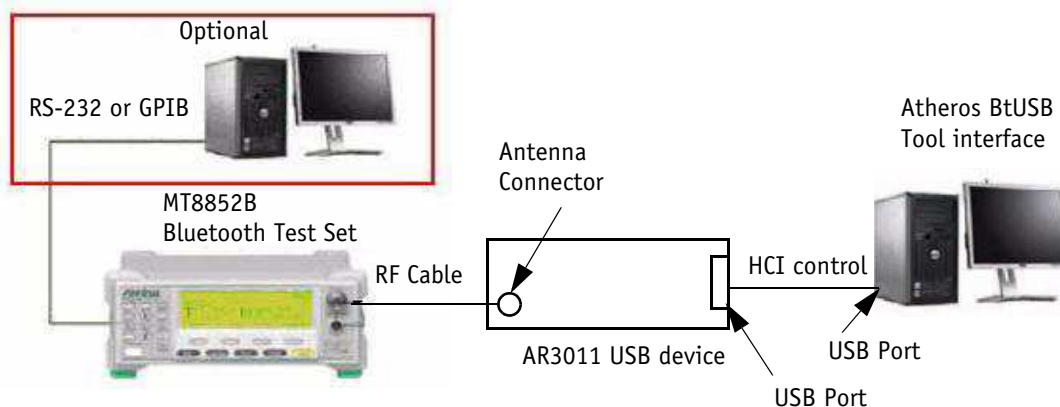

Figure 1-7. Atheros BtUSB Tool Hardware Set Up for Testing
Figure 1-7 shows a typical hardware setup to be used with the BtUSB tool.
2. Connect the RF cable between the AR3011 USB Adapter and the RF tester by connecting an RF cable to the antenna connector (J2 on the AR3011 USB Adapter) as shown in Figure 1-7.